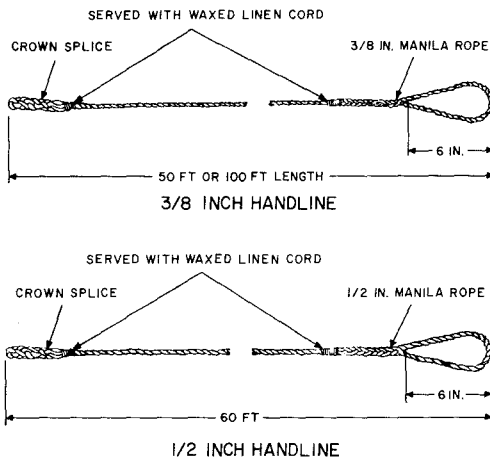

Fig. 3—Handlines
**4.01** The two handlines shown in Fig. 3 are available for use in outside plant operations.